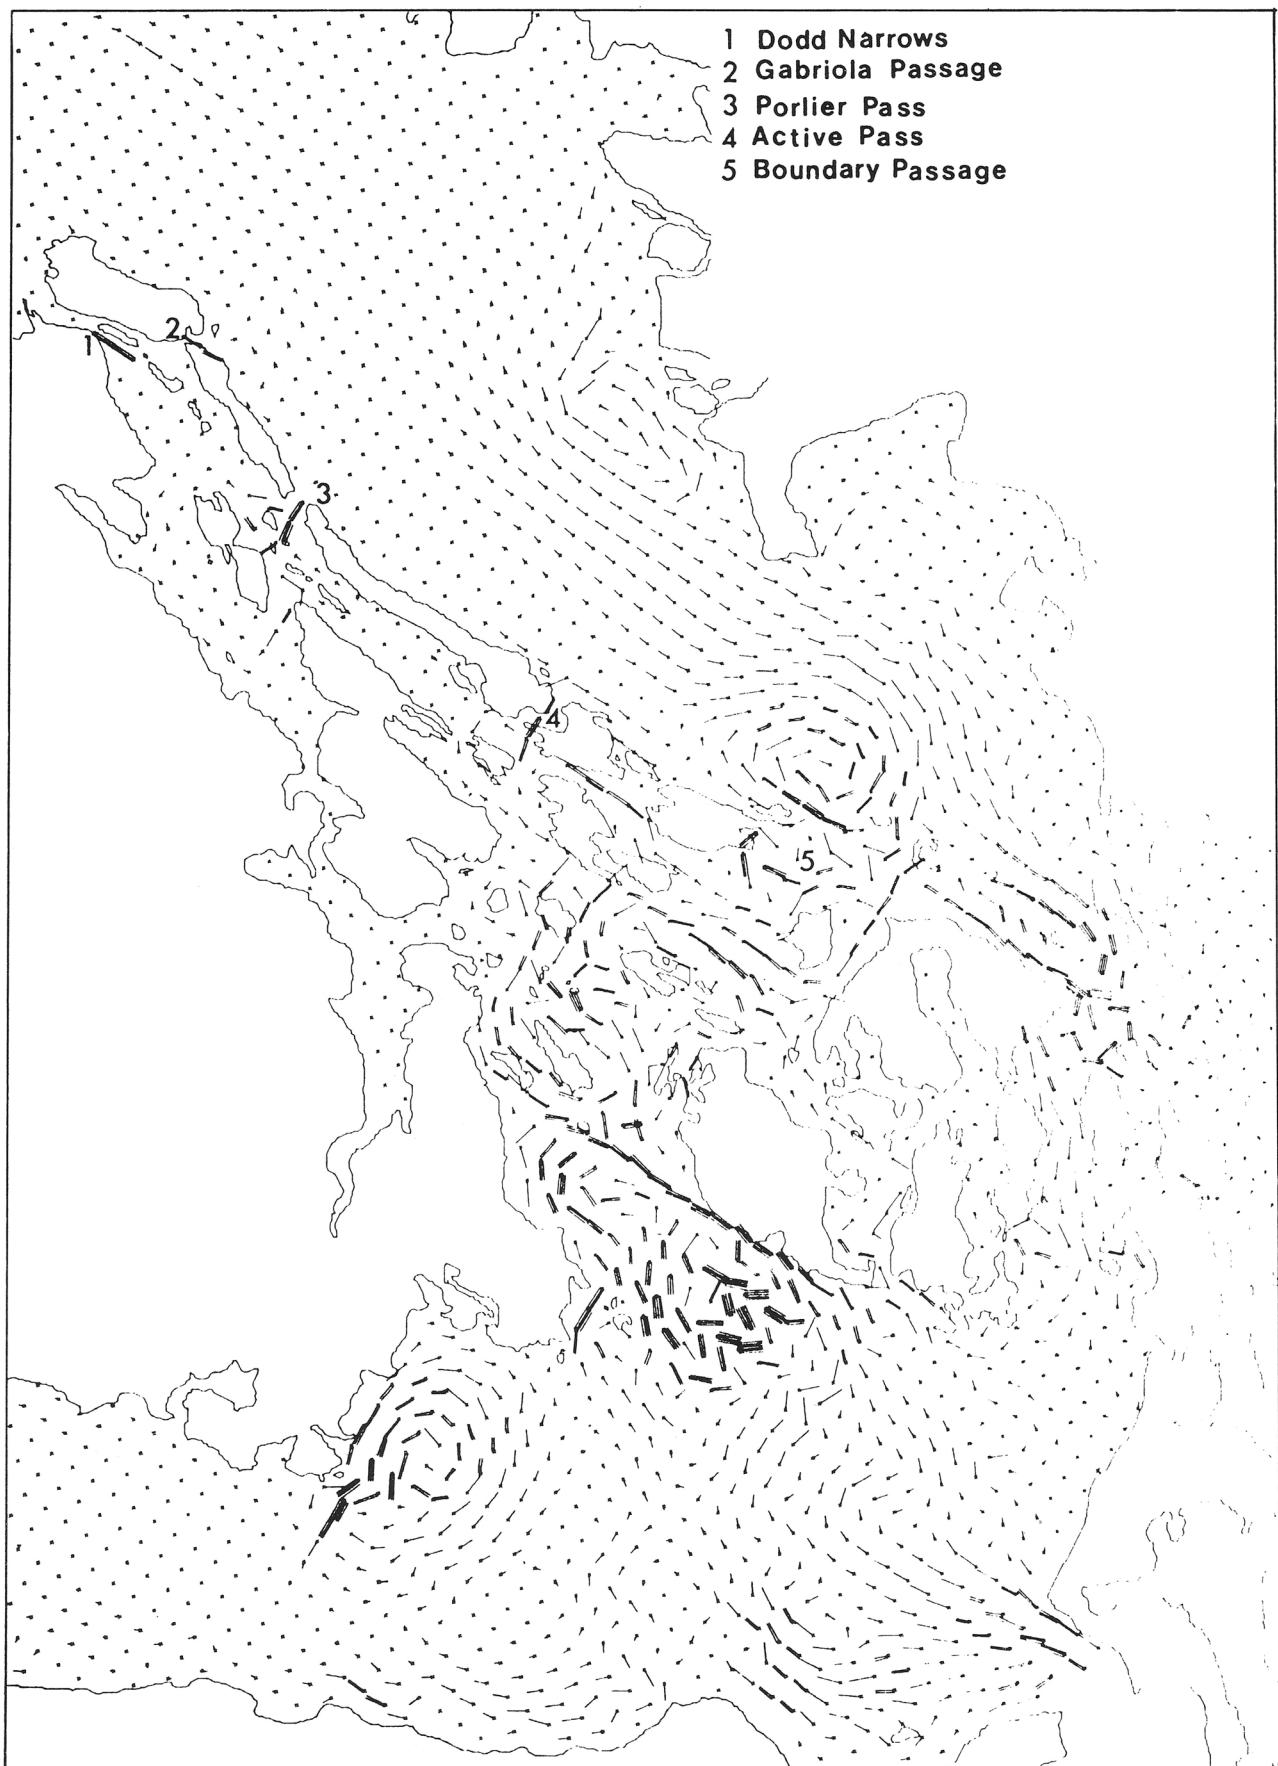

Figure 4. Flood Current Near South Vancouver Island
In these narrow constrictions between the Gulf Islands, the passage of the tide from Juan de Fuca Strait into the Strait of Georgia is choked. A pressure head of up to 750 millimetres can build up along these passes. Our previous current predictions are based on short time-series using drifters and it was felt they could be improved. Michael Woodward of the Tides and Currents Section placed Applied Microsystems underwater pressure recorders at the ends of Active Pass, Porlier Pass, Gabriola Passage, and Dodd Narrows (Figure 4). They recorded for a year to give a long time series of the pressure heads. At each pass the current was measured for a two week period using a small Neypic impellor mounted on a frame on the side of a launch (5).
similar in magnitude at 50m depth, but much less at 200m depth. Ship traffic is concerned more with eddies generated in and near Boundary Passage to the south, and around the various islands and channels in the Strait. Dr. Patrick Crean of the Institute of Ocean Sciences has generated a numerical model of tidal streams in Juan de Fuca Strait and the Strait of Georgia. A chart of these streams during flood (Figure 4) illustrates the large confused flow in Boundary Passage and the large eddies to be found off the Gulf Islands. We have confirmed these eddies with drift observations and reports from mariners. This chart is one of 12 which we have produced from data generated by Dr. Crean's model. They will be bound together in an atlas and sold to mariners.